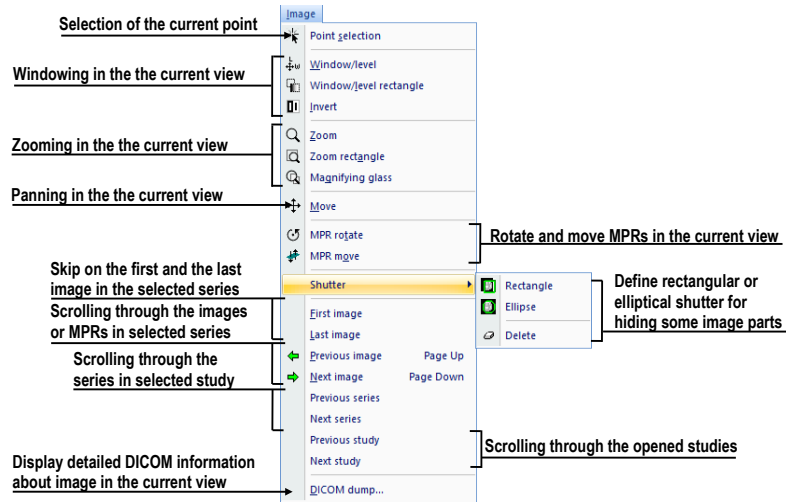

Figure 42 – Image menu
- **Image** – viewing and handling of the images. Contains a comprehensive group of functions for windowing and zooming images in a view, creating shutters and reading raw DICOM data of images (see Figure 42).